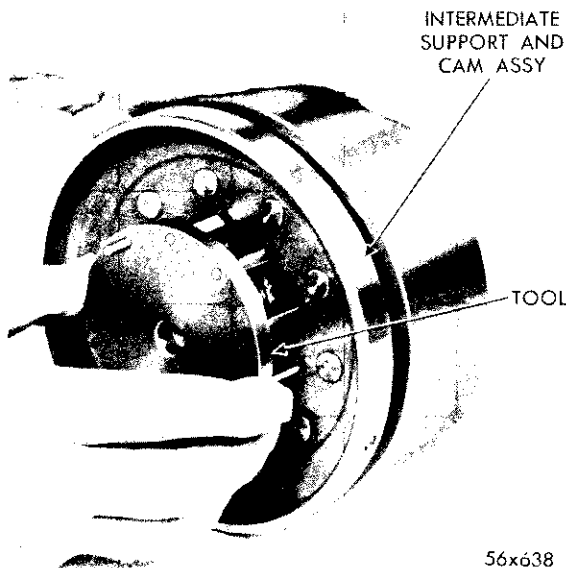
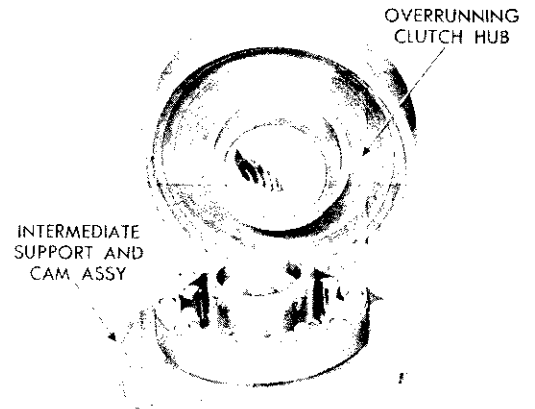

Fig. 67—Installation of Tool C-3527 in Intermediate Support and Cam Assembly
Fig. 68—Removal and Installation of Intermediate Support and Cam Assembly from Overrunning Clutch
(4) Install gauge, Tool C-3527, in intermediate support and cam assembly, as shown in Figure 67. Remove intermediate support and cam assembly from the overrunning clutch hub, Figure 68.